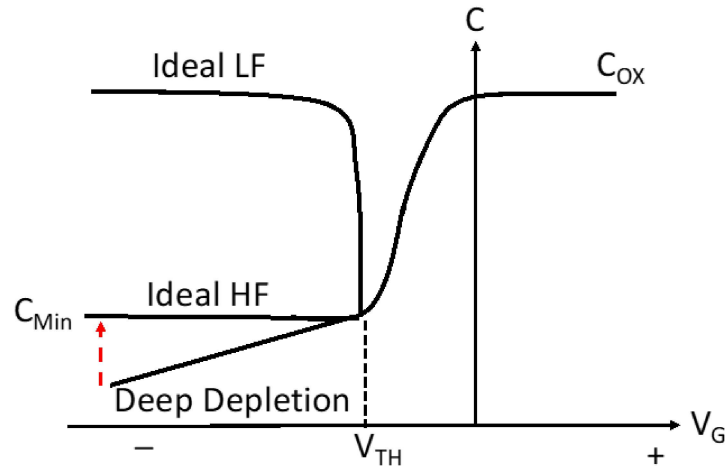

Figure 16: CV curve, low frequency and high frequency
- The capacitance returns to its original value C_{ox} as shown in the Fig.16